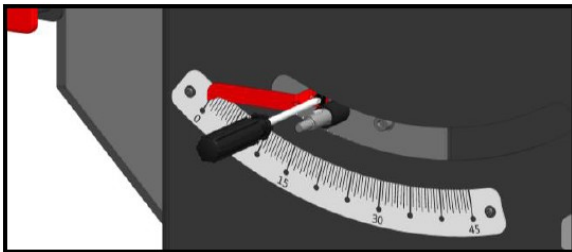

Figure 37
1. Remove the hand wheel by loosening the hand wheel lock knob. Figure 37